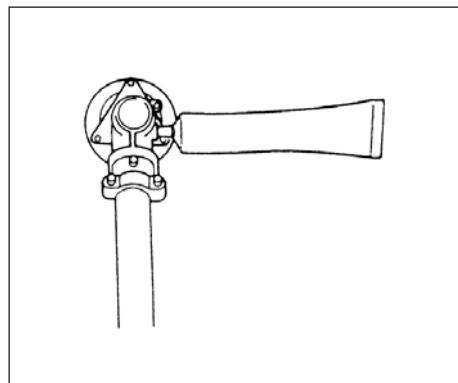

Fig. 3-5
**Angle transmission (Fig. 3-5)**